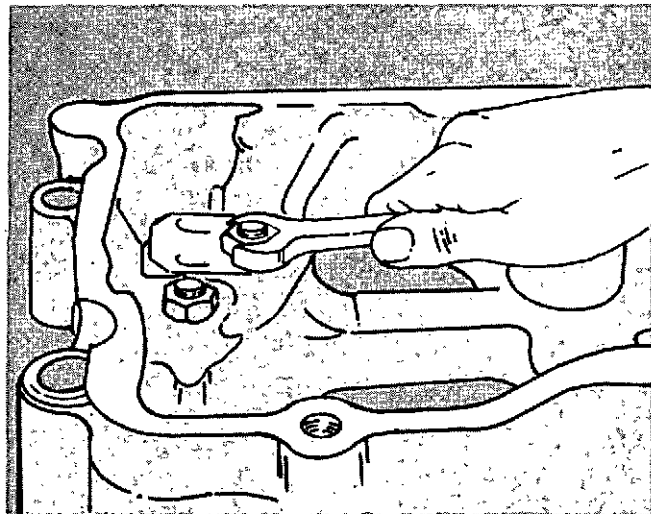

Fig. 20-14. Remove The Control Valve Cover Plate.
1. Remove the capscrew that fastens the cover plate to the housing, Fig. 20-14.